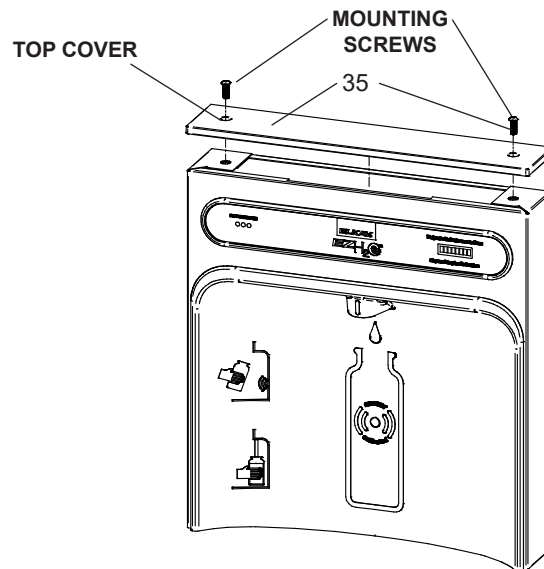
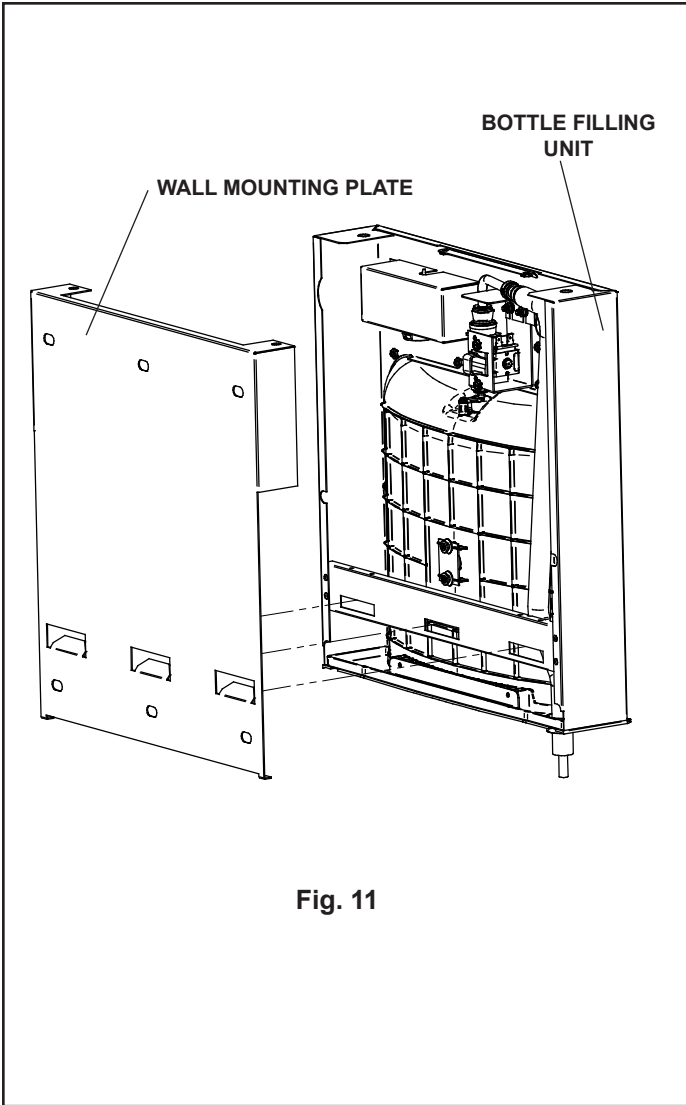

Fig. 8
Fig. 11
- 1) Remove two (2) mounting screws with 5/32" Allen wrench holding top cover to Bottle Filler (See Fig. 8). Remove top cover. Note do not discard mounting screws, they will be needed to reinstall top cover.
- 8) With the power cord and waterline through hole on top of water cooler place Bottle Filler on the three (3) angled tabs protruding from the wall mounting plate installed on wall. Make sure round boss in gasket fits in hole of basin. (See Fig. 11).
- 9) Once Bottle Filler is installed on wall plate tabs, waterline and power cord are installed properly, push top of Bottle Filler toward wall and line up top cover two (2) holes.
- 10) Reinstall Top Cover on Bottle Filler (See Fig. 8) with two mounting screws from step 1 above. Caution, do not over tighten screws.